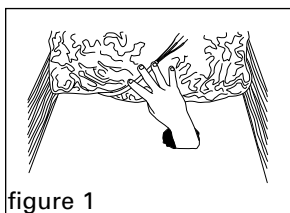

figure 1
1. If there is not a hole where you want to hang the fan, cut a hole in the sheetrock using the electrical box provided as a template. Be cautious of sharp teeth and screws on each end of the Saf-T-Brace®. Clear the installation site of any insulation, wiring and existing lightweight bar hanger (figure 1). Remove wiring from the sides of the joist.